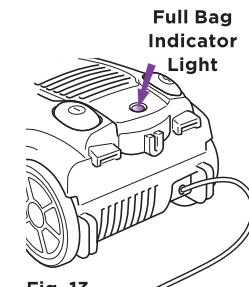

Fig. 13
- 1 The full bag indicator light will illuminate when the bag is full. (Fig. 13)